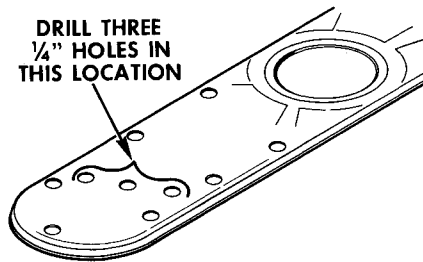

Figure 1 - Drill Holes as Shown
If you believe high pump pressure to be the reason for plates bumping during the wash and rinse periods, drill three (3) 1/4" holes in the spray arm. Drill holes on an angle in the end opposite the propelling hole. Drilling these holes as shown in Figure 1 will also give increased wash action in the silverware basket.